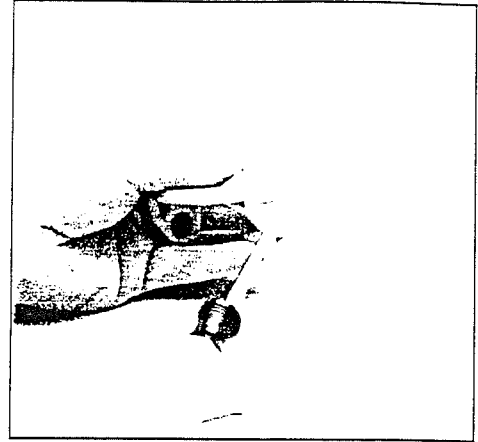

Figure 4
- 4) To disconnect the piston from the connecting rod, pry the two (2) halves of the connecting rod apart with a flathead screwdriver. (See Figure 4).